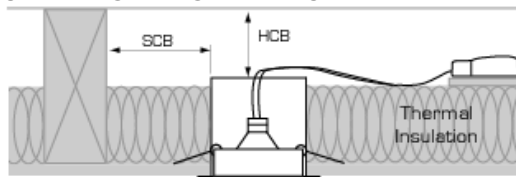

Fig 2.
2. If building is insulated use 'Heat Can' (HC11 or HC02), place transformer on a piece of board on top of insulation ensuring ventilation of transformer 'fig 2'. Connect the luminaire (lamp holder) to the transformer.